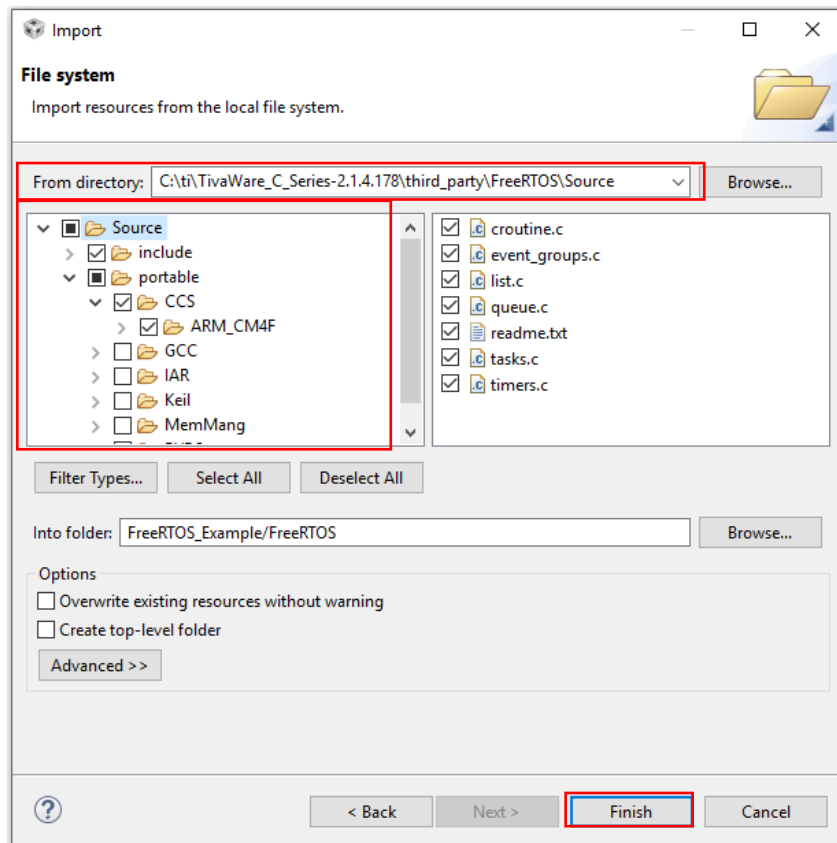

Figure 2. Import FreeRTOS to the Project (2)
6. Select the files shown in Figures 2 and 3 and click on *Finish*.